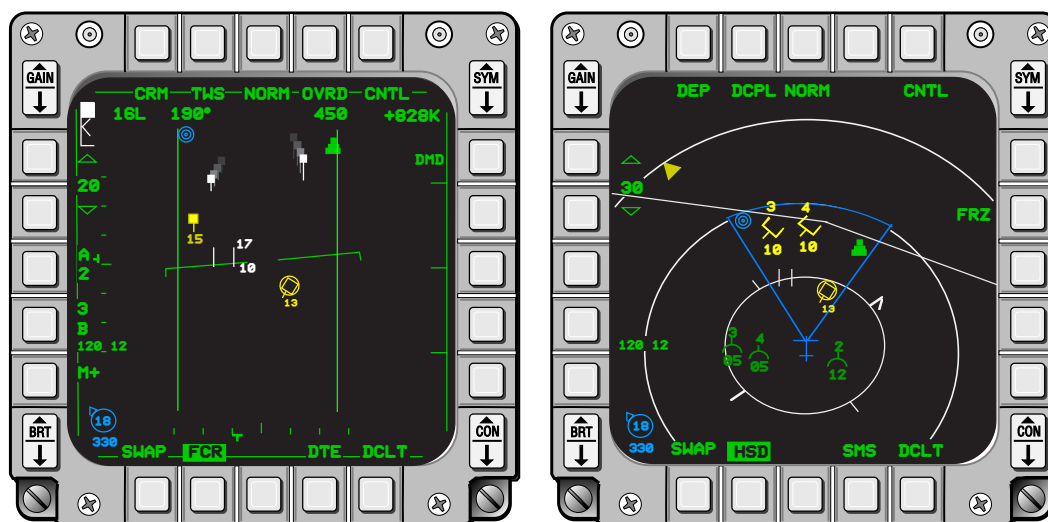

Figure 1-68 DMD Mode
**Demand (DMD) Mode.** The DMD mode allows any pilot in the intraflight net to initiate a one-shot "flight situational awareness" update. When the pilot presses the COMM switch outboard with DMD selected, a DMD data link round is initiated as indicated by the highlighted DMD label on the FCR OSB 6, and the intraflight team members' data link systems will automatically reply. The DMD transmission cycle ends after the last flight member in the 4-ship sequence has transmitted (See Figure 1-68).